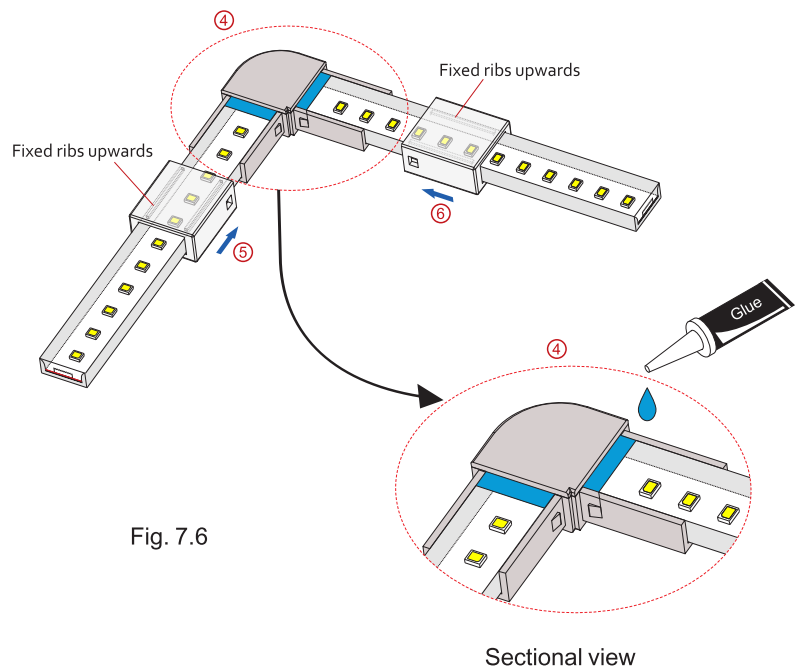

Fig. 7.6
- Fig. 7.6 — Inserting the adhesive silicon glue, and make IP65 Waterproof.